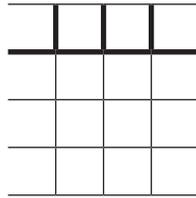

Figure 2
- ◆ (Figure 2) Before laying the next row of tiles, lay a row of full-size divider strips along the first row. Use a hand roller to be sure the strips make full contact with the adhesive.